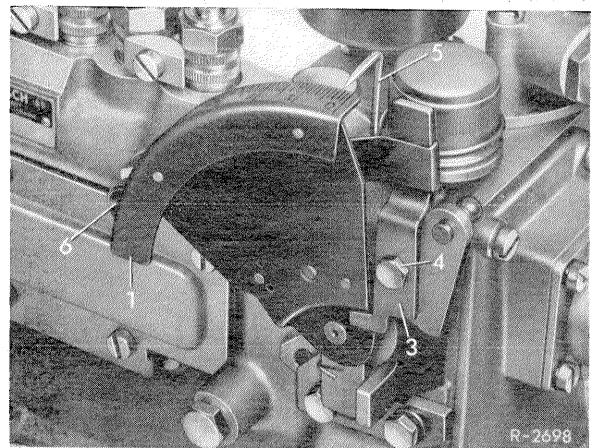

Fig. 37 Graduated disk on fuel injection pump
**Note.** To mount graduated disk (1) on the regulating lever in model 250 SE, fuel feed line (6) must be screwed off (see fig. 37).